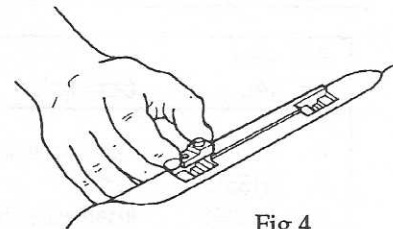

Fig.4
1. Place a blade mounting block in the right (short) mounting block inset with the socket head screw facing upward as in Fig.4.